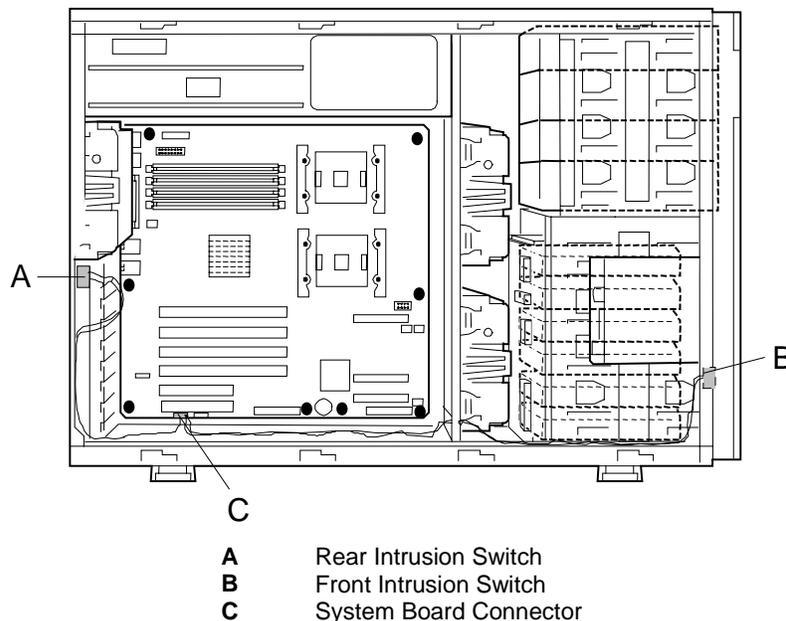

Figure 4-60. Removing the Intrusion Switch Assembly
To remove the intrusion switch assembly (see Figure 4-60), perform the following procedures:
3. Tag and disconnect the intrusion switch cable from its mating connector on the system board. See Figure 4-60, C.
4. Remove the intrusion switch located on the front and the switch located at the rear of the chassis. See Figure 4-60, A and B. To release an intrusion switch squeeze its two plastic snap tabs together and slide it back until it is free of the chassis.